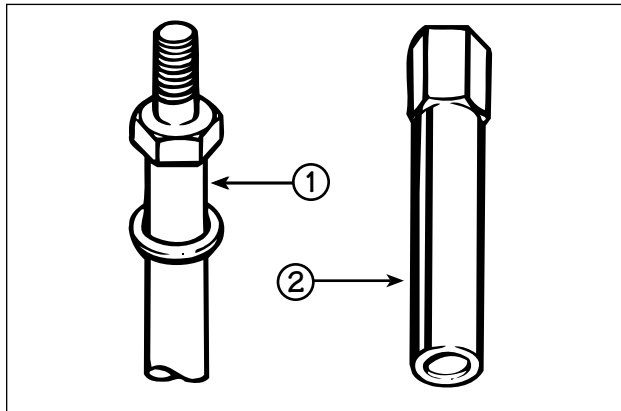

FIG. 1
1. Refer to Fig. 1. Torque the cylinder-head bolt (1) to 203 lb.-ft. (275 N•m). Install the cylinder-head bolt spacer (2) on cylinder head bolt (1).